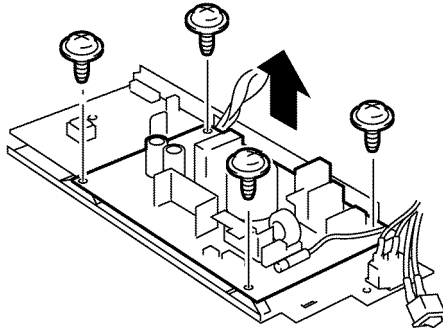

Figure 3
6. Remove four screws then the LVPS as shown in figure 3.